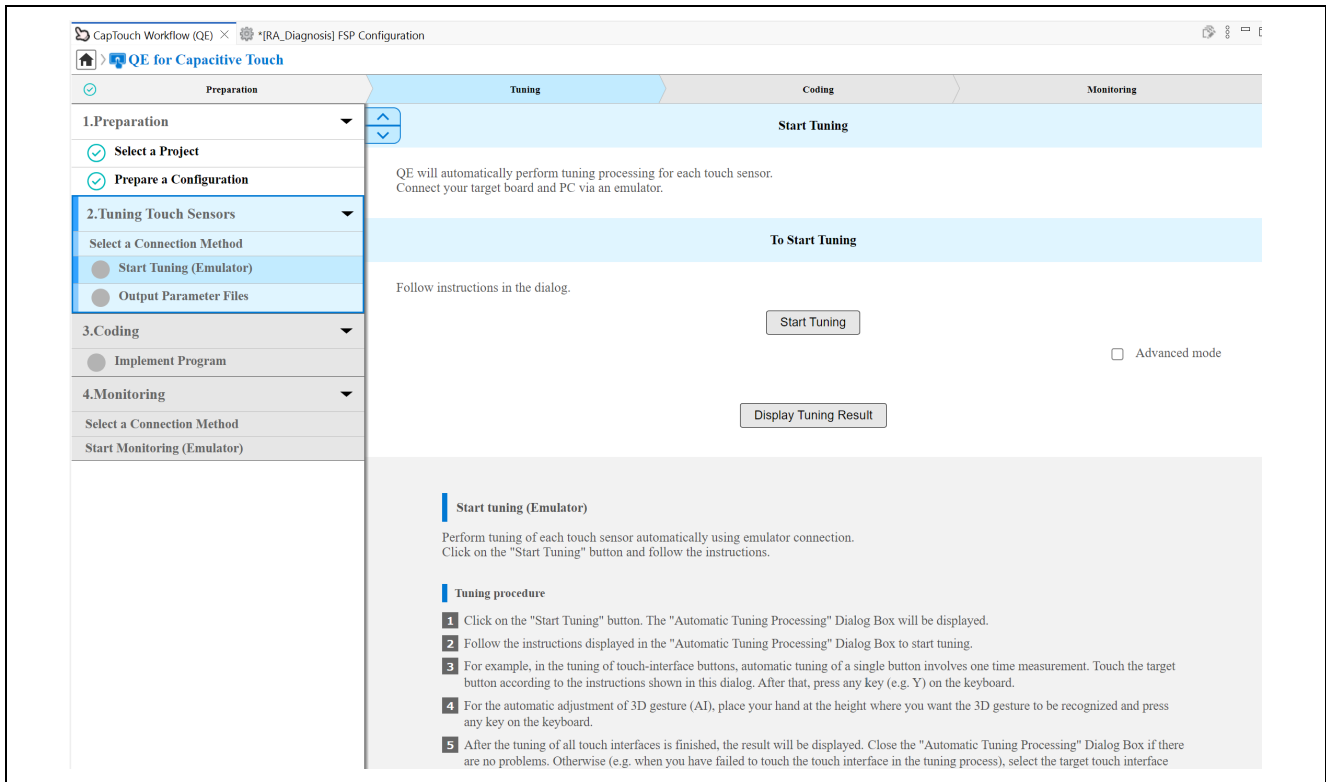

Figure 6-13 Start Tuning
16. As shown in Figure 6-13, click [Start Tuning]. Complete the tuning operation according to the QE instructions.